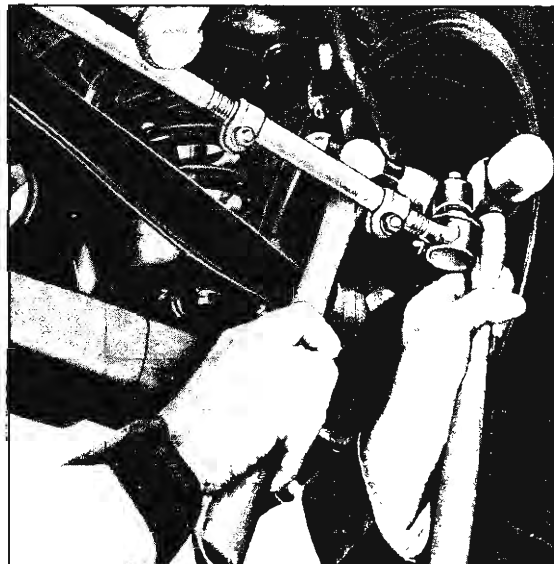

Fig. 38—Freeing Ball Stud
2. To remove outer ball stud, tap on steering arm at tie rod end with a hammer while using a heavy hammer or similar tool as a backing (fig. 38). If necessary pull downward on tie rod to remove from steering arm.